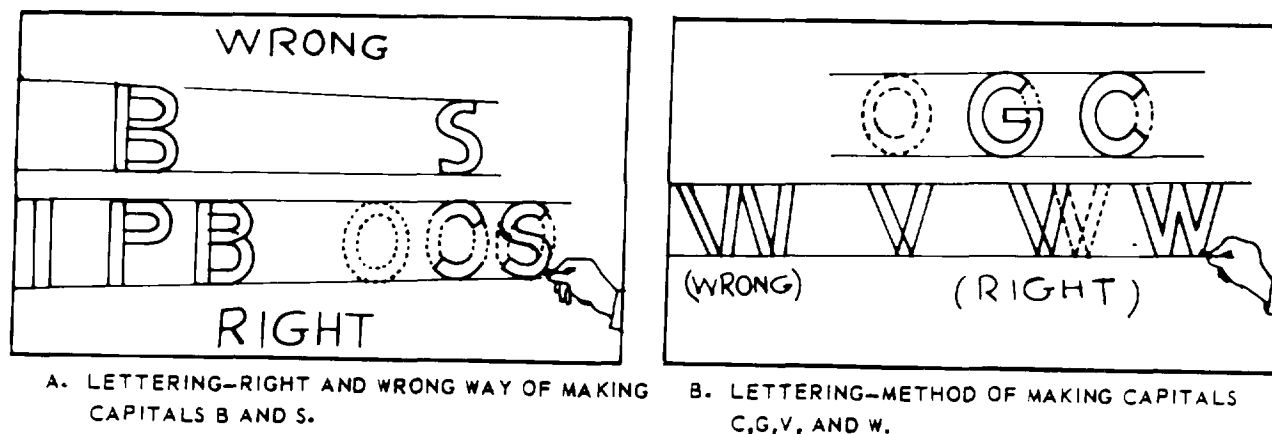

Figure 6-5. Lettering Method
d. Right and Wrong Ways of Lettering. Avoid the mistakes indicated in figure 6-5, and follow the right methods shown.
- a. Identify the area to be marked and clean it of dirt, grease, and base paint. Using chalk, draw parallel lines the width of the desired letters and numbers, as shown in figure 6-5.